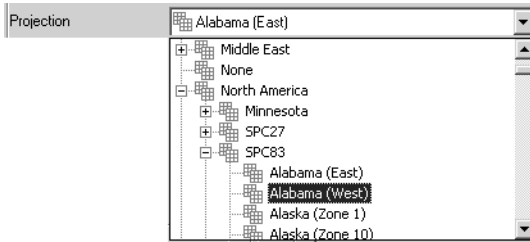

Figure 3-30. Projection List
- the Projection type (Figure 3-30).